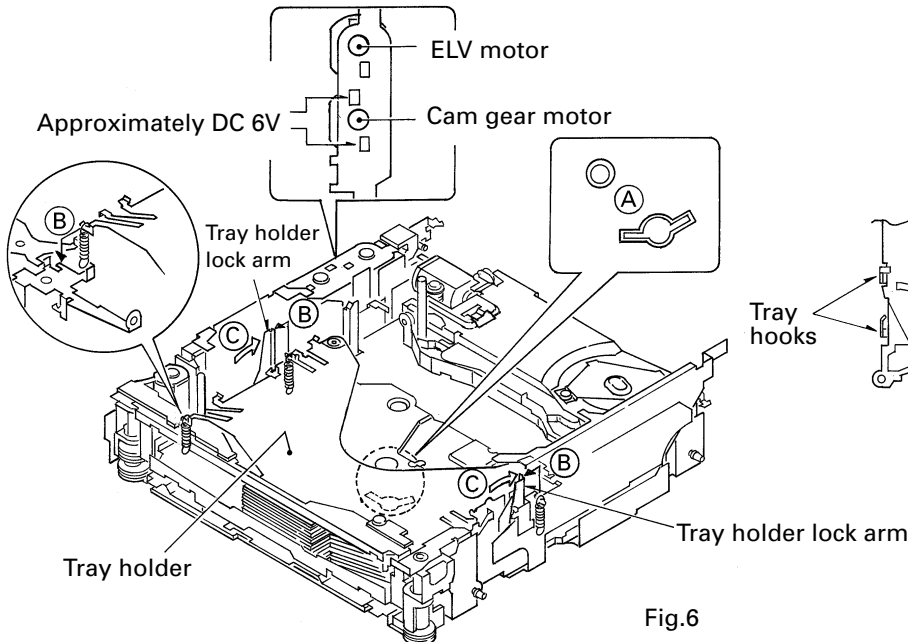

Fig.6
- 1. Apply about 6V current to the Cam gear motor until all holes match at the position (A) (elevation OK position).
- 2. Hook the three springs B temporarily as shown in Fig. 6. While pushing the Tray holder lock arms (right and left) in the direction (C), remove the Tray holder.